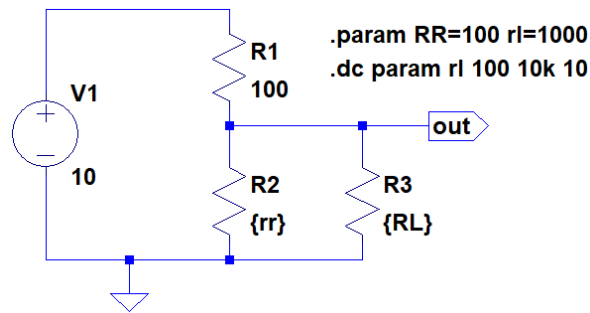

Fig. 5. Resistive voltage divider with load.
1. Modify the divider circuit as shown in Figure 5.